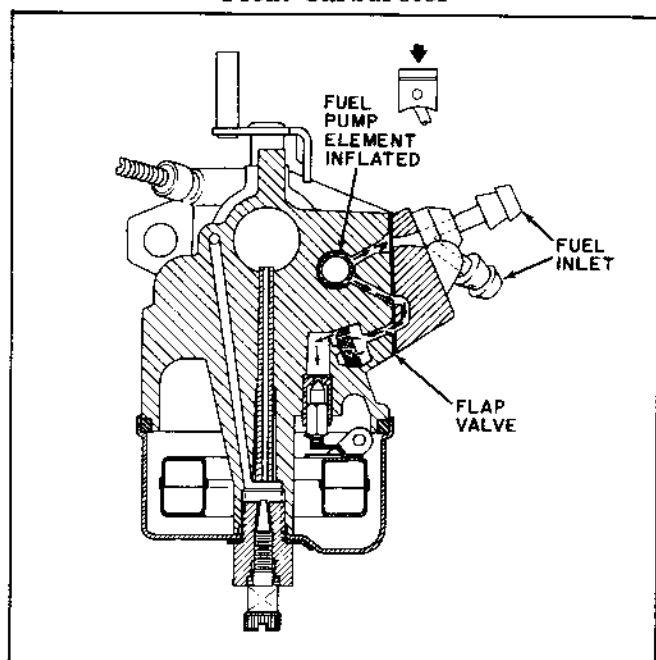
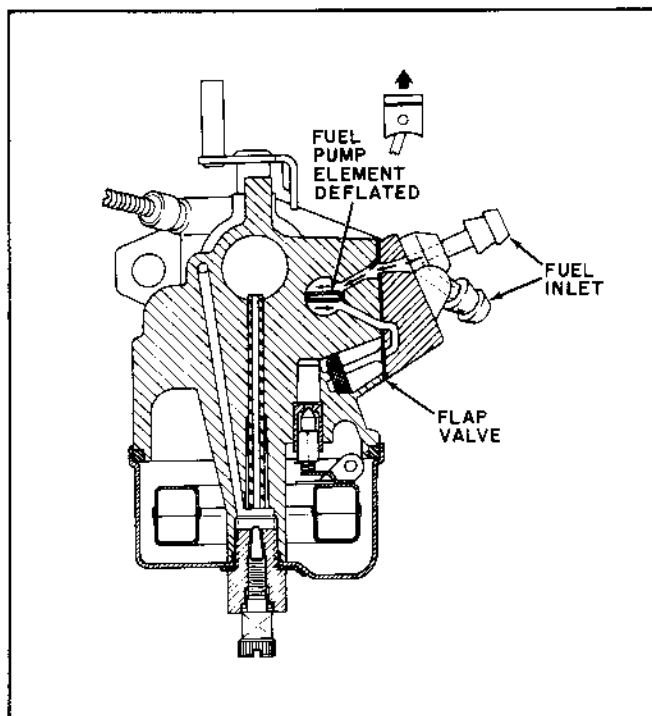

Figure 7-5. Float Carburetor with Inflated Fuel Pump
Figure 7-6. Float Carburetor with Fuel Pump Deflated
- (2) The engine piston, moving out of the crankcase area, creates a partial vacuum which collapses the fuel pump element in the carburetor. On the outside of the element, suction opens the inlet flap allowing a supply of fuel to flow from the tank and lines into the cavity created by the deflating pump element. Suction pulls the outlet flap closed, sealing the outlet port so that fuel isn't pulled from the area of the inlet needle and seat. See Figure 7-5.
(3) With the piston downward stroke, crankcase pressure enlarges the pump element forcing fuel out of its cavity. This pressurized fuel acts against the outlet flap valve, opening it, to allow a head of pressurized fuel to be transmitted to the inlet needle and seat port. The inlet valve is pressed against the inlet port, sealing it so that pressurized fuel does not escape back into the fuel tank and lines. See Figure 7-6.
(4) The valve cover assembly contains the inlet tube (two inlet tubes in an outboard engine) from the fuel supply.
- (1) Inlet Fitting Valve. Place short length of fuel line with end cut perfectly flat over fuel pump element cavity (Figure 7-5). Place finger over fuel inlet fitting to close (Figure 7-5). Suck out air through fuel line - valve should close (Figure 7-6). Be sure fuel line is held tightly against the carburetor body. If valve leaks, blow in gently and repeat.
- (2) Carburetor Body Valve. Place short length of fuel line on fuel inlet fitting. Gently suck on tube which should cause valve to close and hold (Figure 7-6). If valve does not hold, blow in gently and repeat sucking action. Replace fuel inlet fitting.